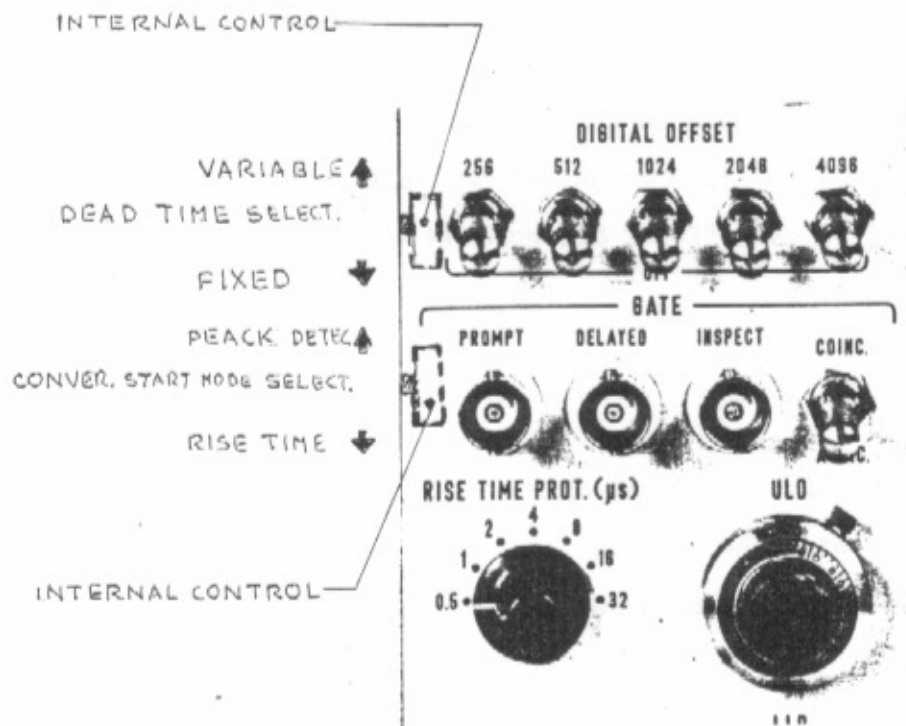

FIG. 3.4.2 - FRONT PANEL PRINTED CARD. INTERNAL CONTROLS.
3.4.2. Front Panel Printed Card (refer to Fig. 3.4.2.)